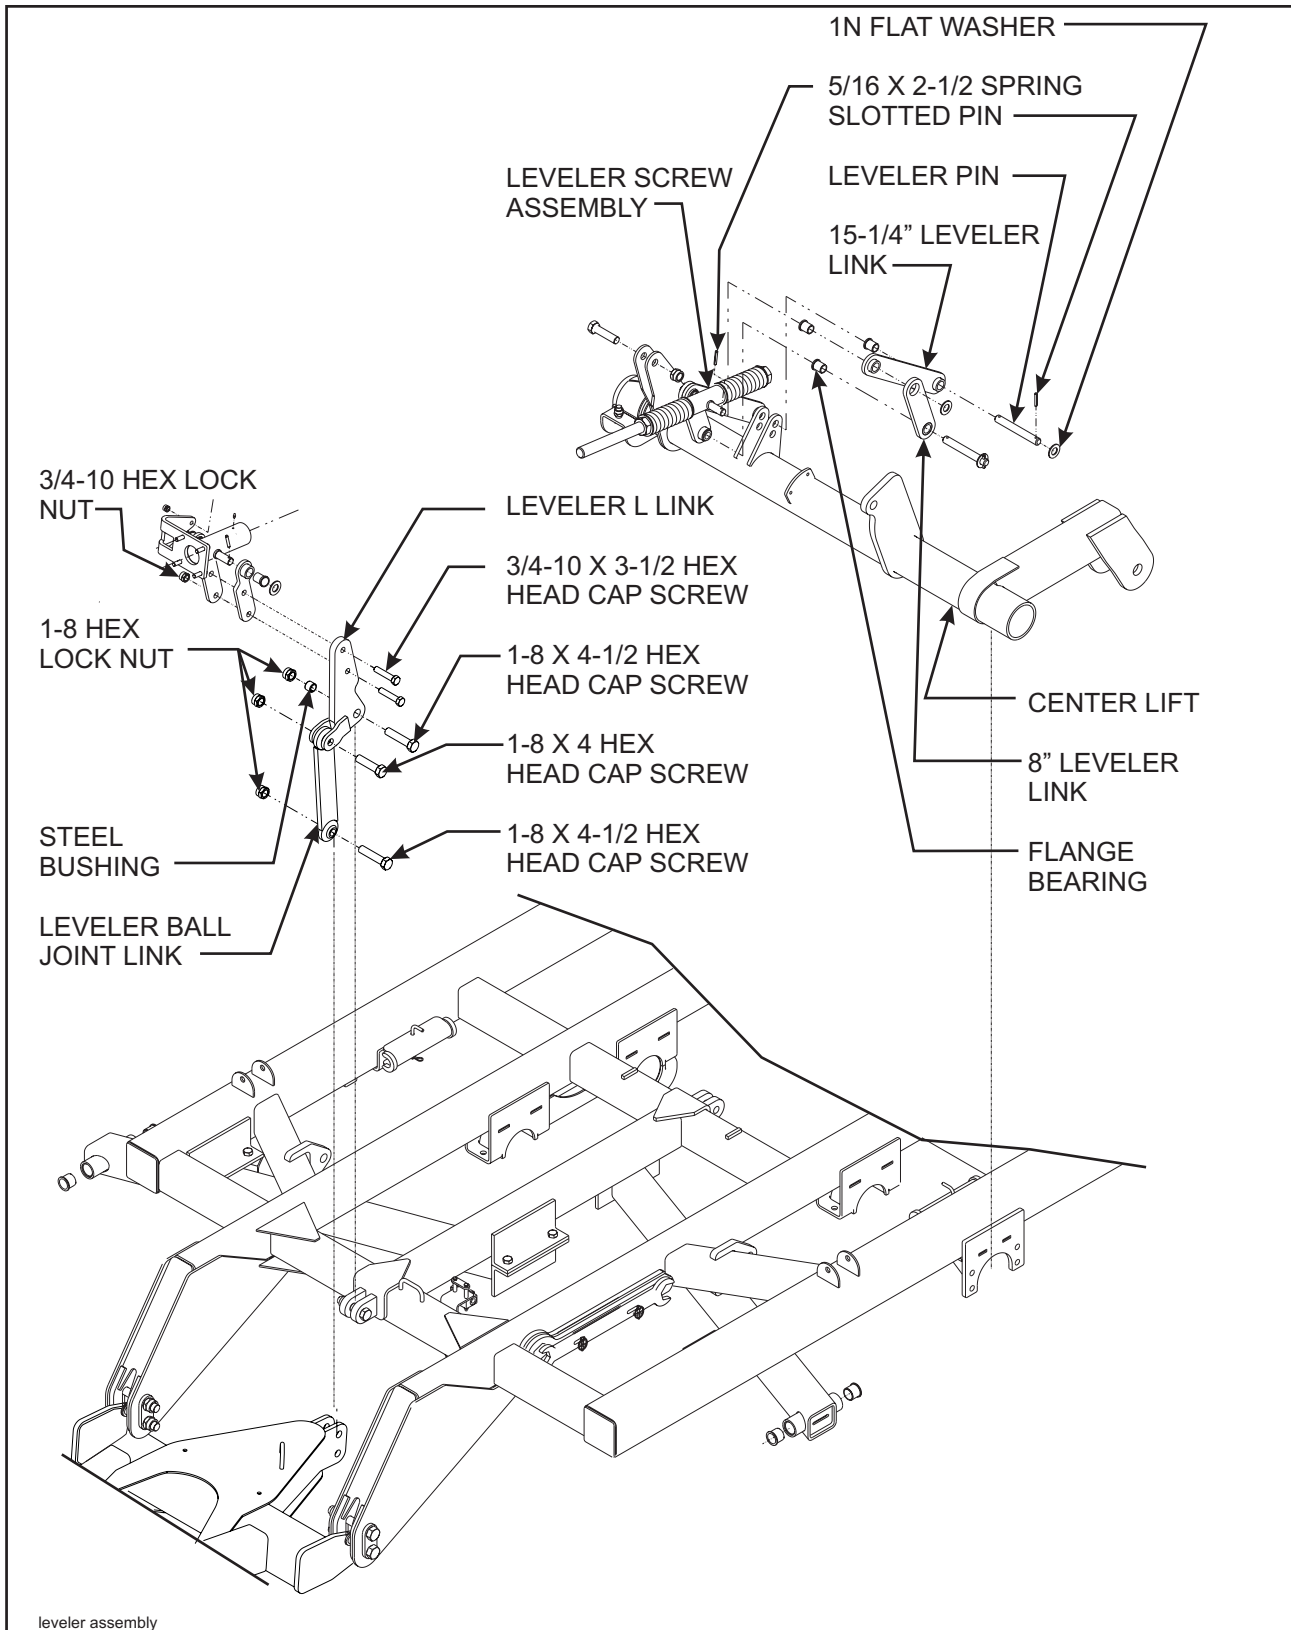

Figure 3-2 Leveler Assembly Installation
- 3-2.1** Install a hardened steel wear bushing in the leveler L link (**See Figure 3-2**).